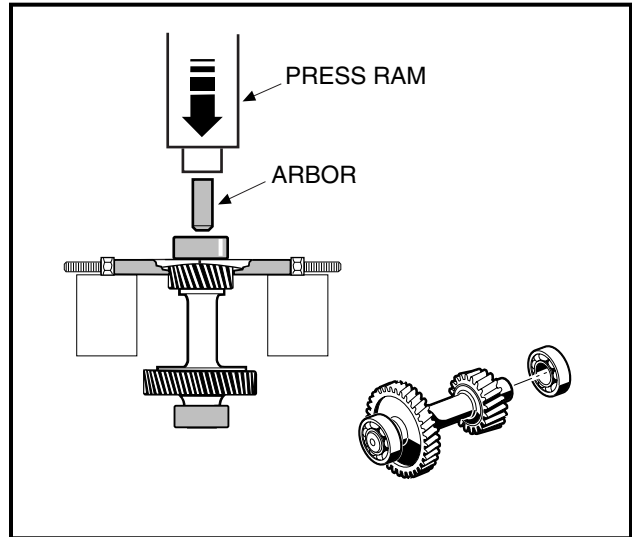

Figure 5-21 Remove Bearing
1. Place a bearing puller wedge attachment (CCI P/N 1012812) between the bearing (66) and the small gear on the idler shaft (65) (**Figure 5-11, Page 5-7**), then press the bearing off the shaft as shown (**Figure 5-21, Page 5-13**). See following **CAUTION**.